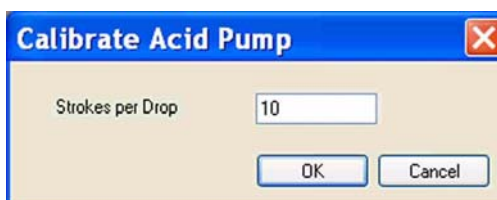

Figure 3-17. Number of acid drops per stroke
4. Type in the number of acid drops per stroke adjusted at the acid pump (default is 10) and confirm by **OK** (Figure 3-17).